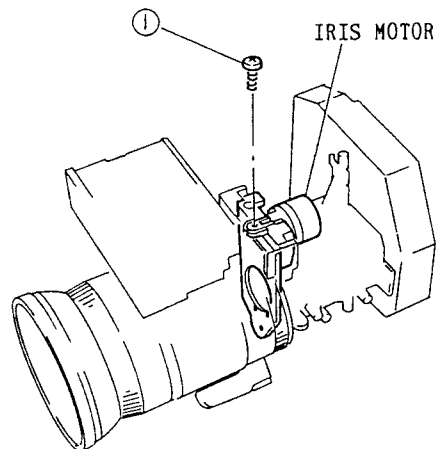

Fig. 2-105
1. Remove one (1) screw holding the iris motor. (See Fig. 2-105)